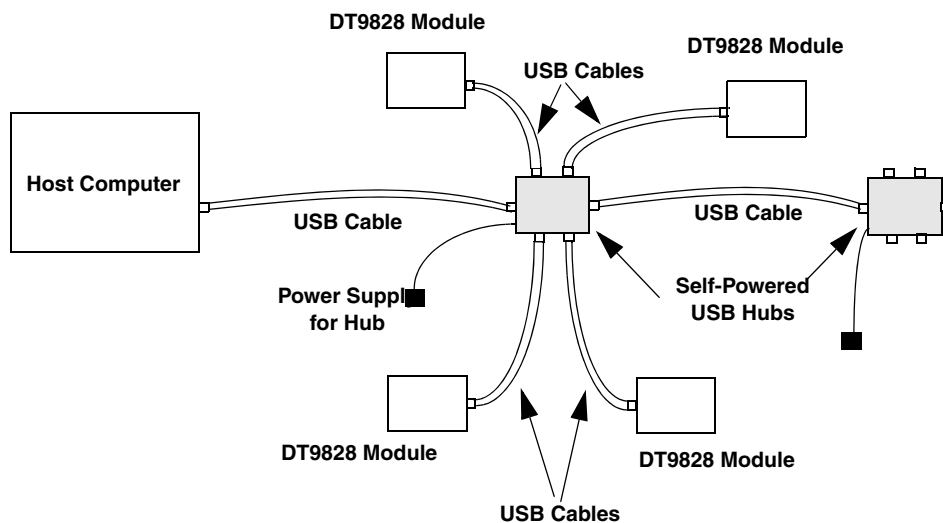

Figure 4: Attaching Multiple Modules Using Expansion Hubs
5. Repeat these steps until you have attached the number of hubs and modules that you desire. Refer to Figure 4.